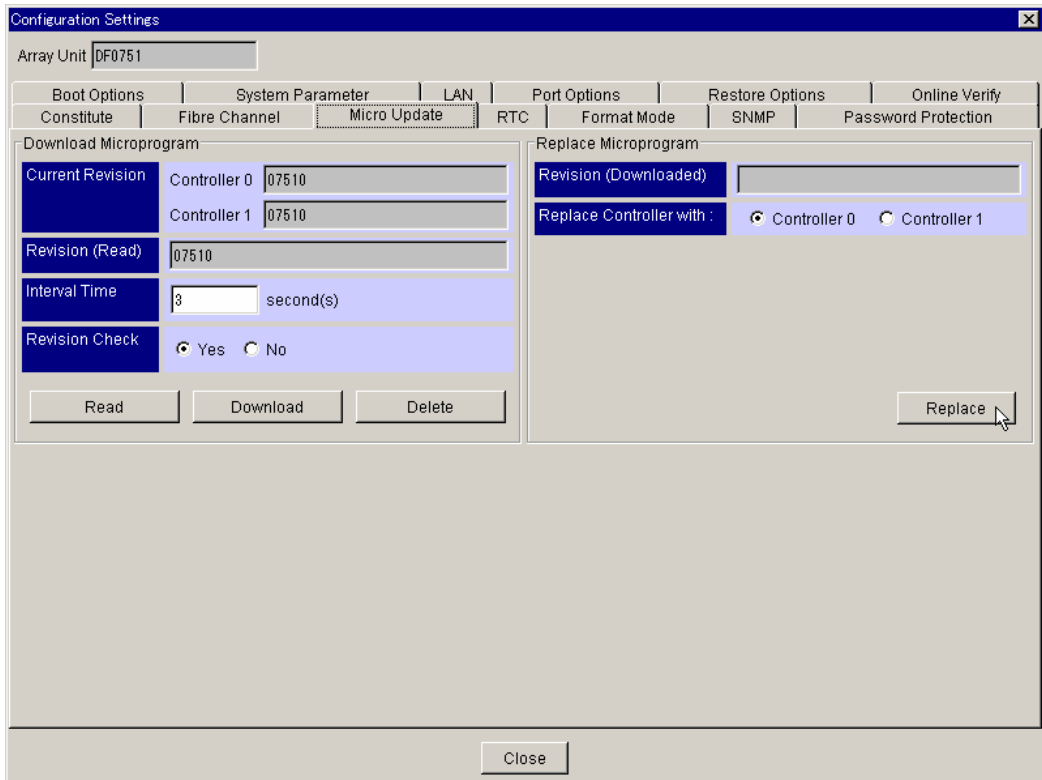

Figure 5.63 Replacing Microcode
3. Click the **Micro Update** tab (see Figure 5.63). For a detailed description of the **Micro Update** tab, refer to section 5.1.13.